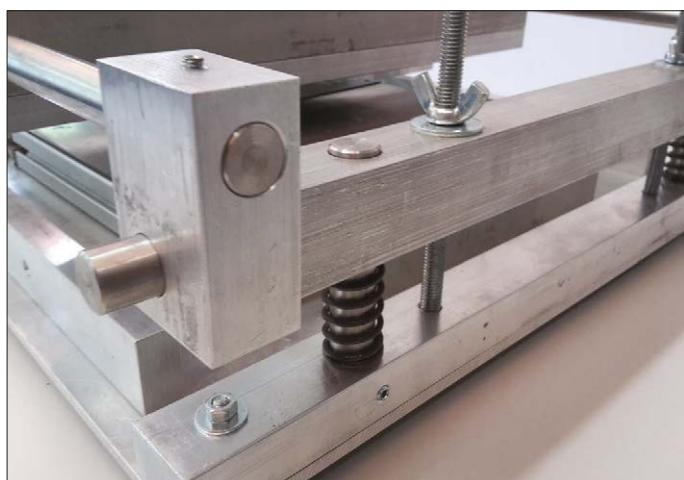

Figure 2. Getting the hang of things: the linear bearings for the stainless steel guide rails are seen here.
Screwed to the base plate, in addition to the adjustable skirts, we have the kerb or plinth (5) on which the entire collapsible stencil mounting rests. The construction is fairly complicated, as the detail view in **Figure 2** shows, since the stencil holder needs not only